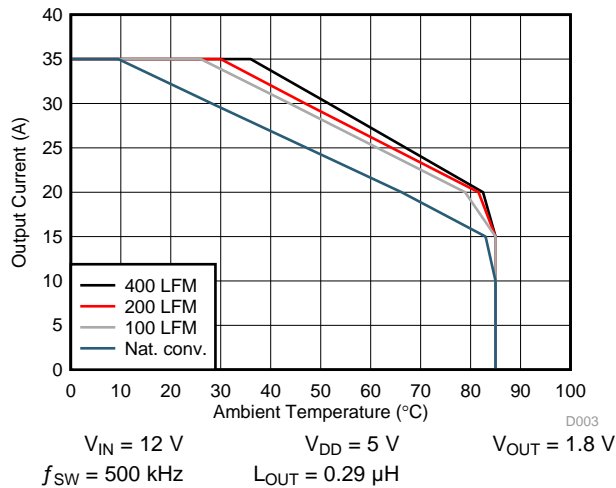

Figure 6. Safe Operating Area – PCB Horizontal Mount (1)
The SOA curves in the CSD95377Q4M data sheet give engineers guidance on the temperature boundaries within an operating system by incorporating the thermal resistance and system power loss. Figure 6 and Figure 7 outline the temperature and airflow conditions required for a given load current. The area under the curve dictates the safe operating area. All the curves are based on measurements made on a PCB design with dimensions of 4 in (W)  $\times$  3.5 in (L)  $\times$  0.062 in (T) and 6 copper layers of 1-oz copper thickness.